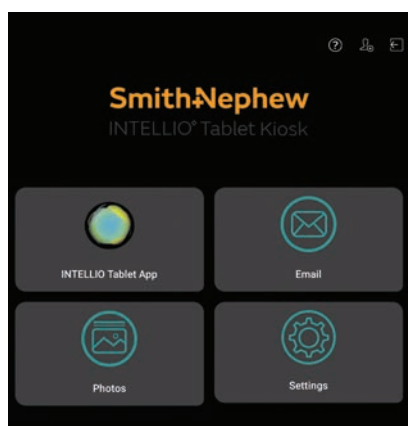

Figure 47. INTELLIO Tablet Home landing page
2. From the INTELLIO® Tablet Home landing page, (Figure 47); locate and tap the INTELLIO Tablet App to open.